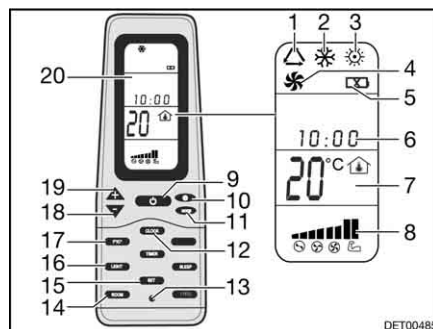

Fig. 111 Remote control
- Press the ON/OFF button (Fig. 111,9).
- Press the "Mode" button (Fig. 111,11) as often as required until the required mode (Fig. 111,1, 2, 3 or 4) is indicated on the display (Fig. 111,20).
- Use the "+" (Fig. 111,19) and "-" (Fig. 111,18) buttons to set the desired temperature.
- Use the fan speed button (Fig. 111,10) to select the desired fan level.